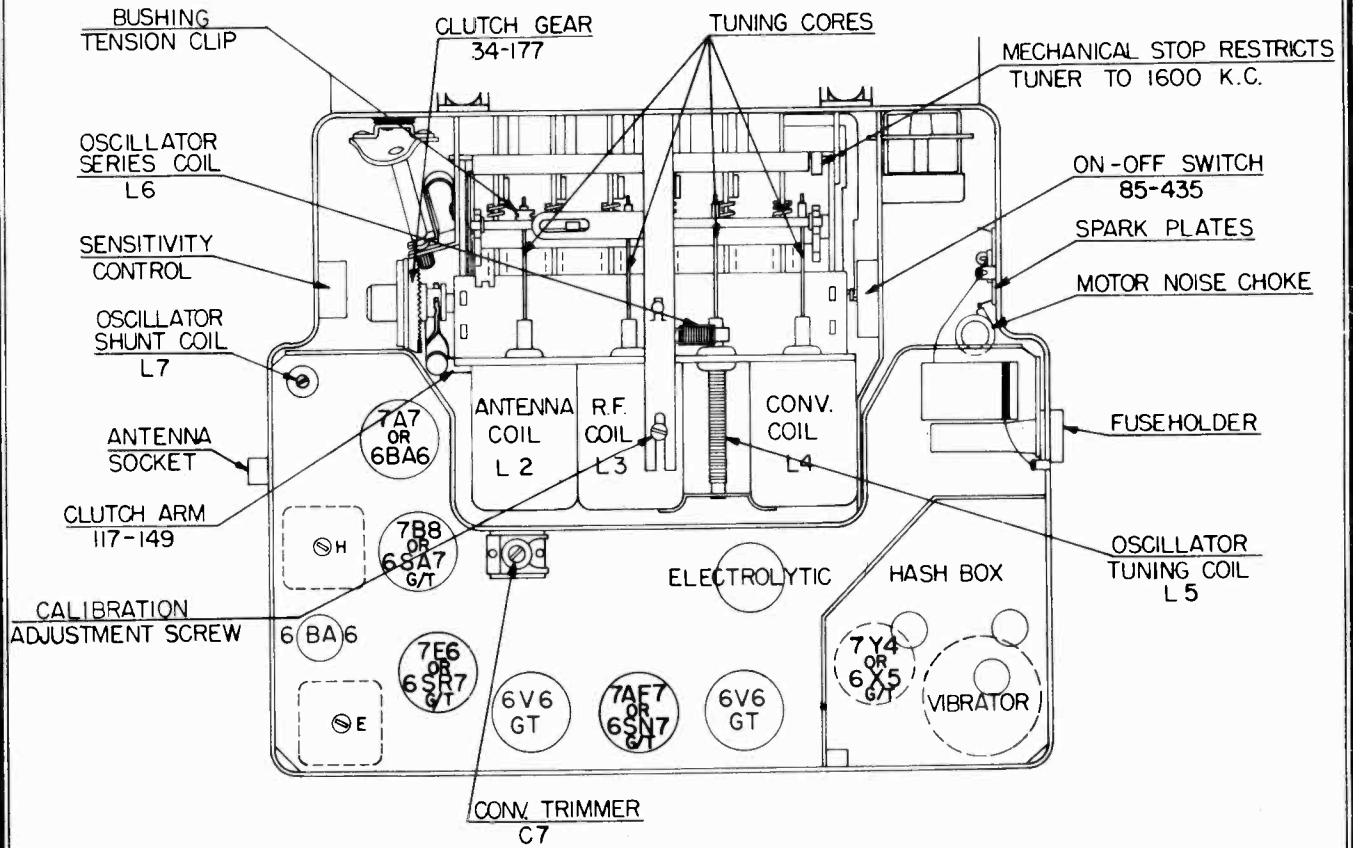
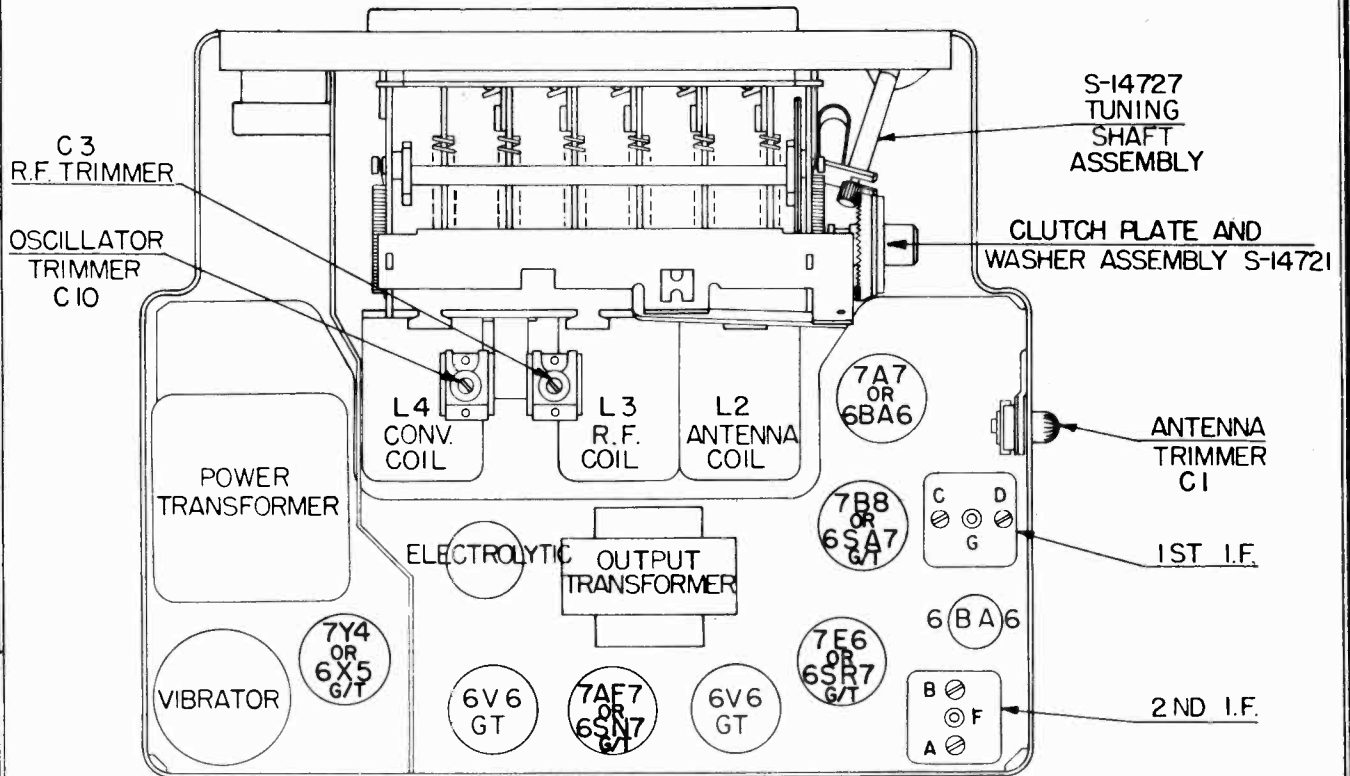

Fig. 7. Top View
Fig. 8. Bottom View
4. Adjust I.F. trimmers A, B, C, and D in order named for maximum output. (Fig. 8.) Some units have I.F. transformers that are slug tuned. In this case adjust I.F. slugs E, F, G, and H in order named. Repeat the operation to assure accurate alignment. (Figs. 7 and 8.)
4. Adjust oscillator trimmer C-10 (Fig. 8), for maximum response.
7. Adjust converter trimmer C-7, R.F., trimmer C3 and antenna trimmer C-1 (Fig. 8) for maximum response (Figs. 7 and 8).
8. If dial calibration is off after making above adjustments, a correction can be made by tuning eccentric screw at fulcrum of dial pointer. (Fig. 7.)
5. Adjust the oscillator trimmer C-10 (Fig. 8) at 1675 Kc.
6. Adjust the converter trimmer C-7, R.F. trimmer C3, and antenna trimmer C-1 (Figs. 7 and 8) for maximum output reading.
9. Adjust the oscillator core L-5 (Fig. 7) to scale at 1300 Kc.
10. Adjust the antenna core L-2, R.F. core L3, and converter core L-4 (Fig. 7) for maximum output reading.
12. "Rock in" shunt oscillator coil L-7 (Fig. 7) for maximum output reading. This should be done only as a last resort. This is the same as rocking in the paddler condenser on a gang condenser receiver.